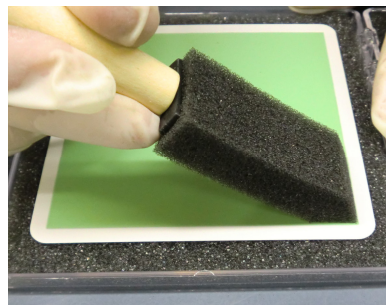

Figure 11
4. Use approximately 4 grams of nickel ink to evenly cover the entire anode active area of the fuel cell with a thin layer of ink (Figure 11).